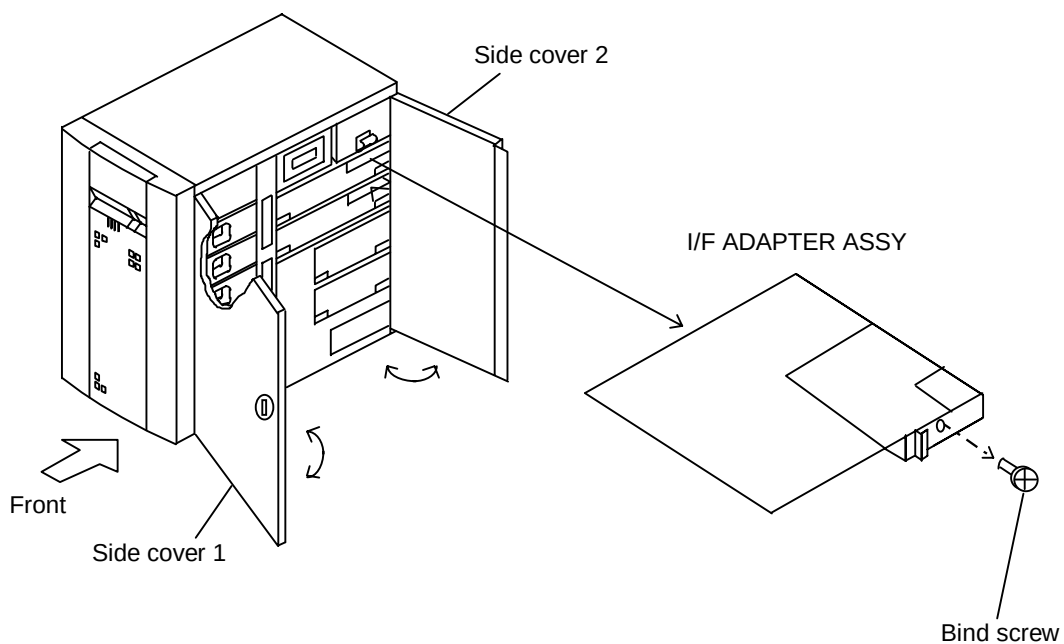

Figure 3.2.6 Setting I/F ADAPTER ASSY
(5) Setting I/F ADAPTER ASSY (See Figure 3.2.6.)
- ① Insert the I/F ADAPTER ASSY into the right place and tighten the bind screw.